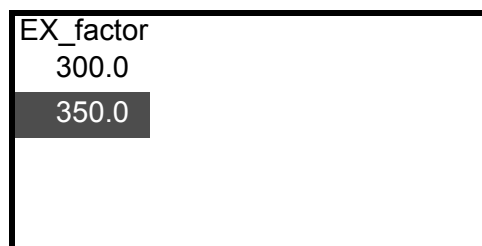

Figure 19 Input of detector constant
- A numerical value input display (Figure 19) will then appear. Use the numeric keys to input a detector constant. Once the input has been completed, press F4 (ENTER) to return to the Sensor Config menu. If F3 (ESC) is pressed here, the change will be aborted and you will be taken back to the original menu